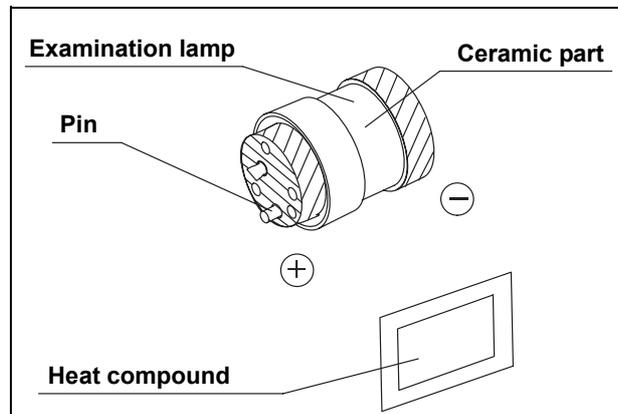

Figure 6.5
7. Remove the clamp of heat sink (A) and pull out the examination lamp.
10. Using your finger, apply the heat compound evenly over the outer circumference (see the cross-hatched area in Figure 6.5) on the “-” side of the new examination lamp (the metal portion on the light emitting side).
11. Insert the “-” side of the examination lamp (see Figure 6.5) into heat sink (A) until it stops.
12. Apply heat compound to the end surface (see the cross hatched area in Figure 6.5) on the “+” side of the examination lamp in the same manner.
13. Insert the “+” side of the examination lamp (see Figure 6.5) into heat sink (B) and tighten the three bolts firmly with the hexagon wrench.